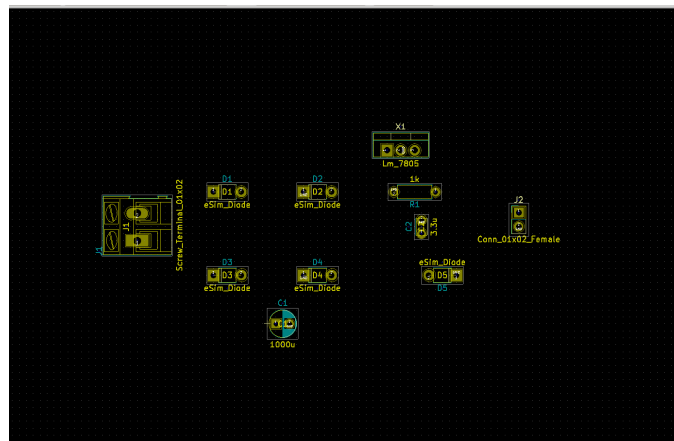

Figure 13.16: All footprints moved and rotated
7. Using similar methods, we have moved and rotated all other footprints as shown in Fig. 13.16